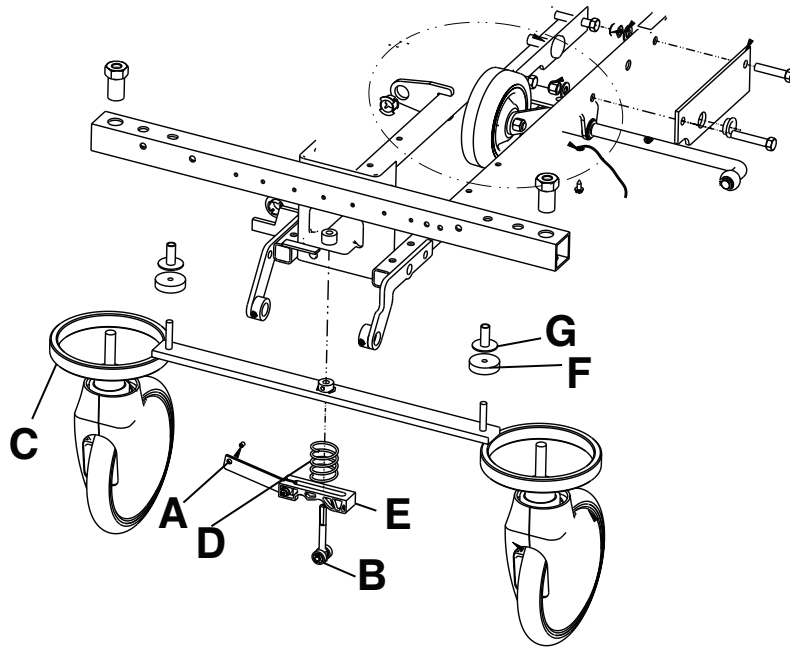

Figure 4 – Brake ring replacement
5. Using a 3/32" hex wrench, loosen the set screw (A) that secures the brake adjuster (B) to the brake ring (C) (Figure 4). Turn the brake adjuster clockwise to remove. Save the brake adjuster.